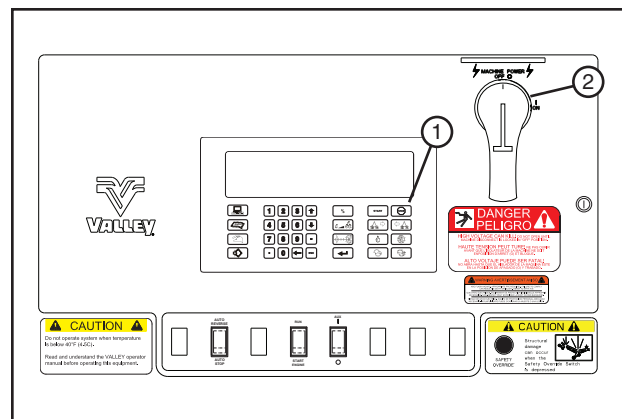

Figure 34-2 AutoPilot Control Panel Shown
1. Press the STOP key. See figure 34-2.
2. Turn the main disconnect switch to the OFF position. See figure 34-2.